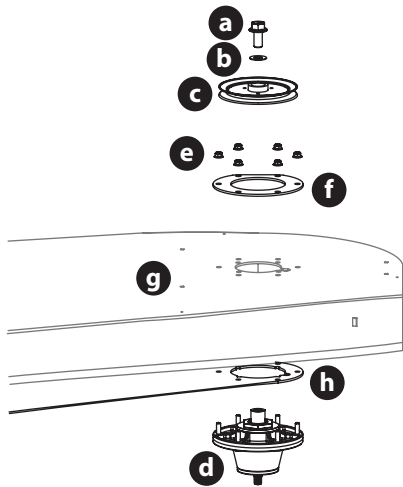
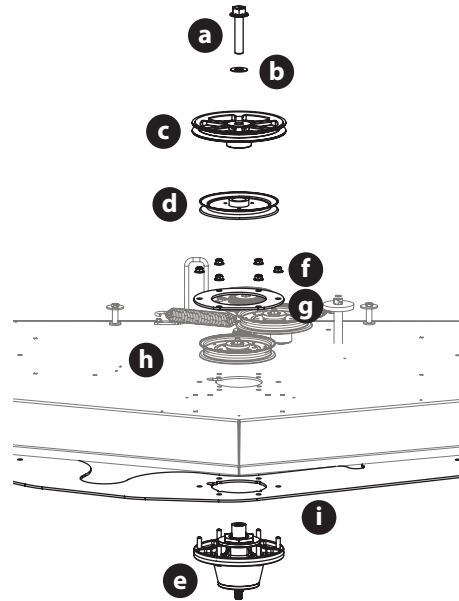

Fig. 67
Fig. 68
- Remove the hex flange bolts (a) and flat washers (b) securing the left and right spindle pulleys (c) to the spindle assembly (d) (Fig. 67).
- Remove the 6 flange lock nuts (e) securing the left and right spindle assemblies (d) and the support plates (f) to the deck shell (g) (Fig. 67).
NOTE: The deck support plate (h) does not need to be removed unless all three spindles are being replaced (Fig. 67).
- Remove the hex flange bolt (a) and flat washer (b) securing the drive pulley (c) and center spindle pulley (d) to the spindle assembly (e) (Fig. 68).
- Remove the 6 flange lock nuts (f) securing the center spindle pulley (d), spindle assembly (e) and the support plates (g) to the deck shell (h) (Fig. 68).
NOTE: The deck support plate (i) does not need to be removed unless all three spindles are being replaced (Fig. 68).
- Reverse the process to install the spindle assembly. When installing the new spindle assembly be sure to install the hardware exactly (Fig. 67 and Fig. 68). Torque the hex flange bolts to 250 ft-lbs (339 N-m) and the flange lock nuts to 21-32 ft-lbs (28-43 N-m).